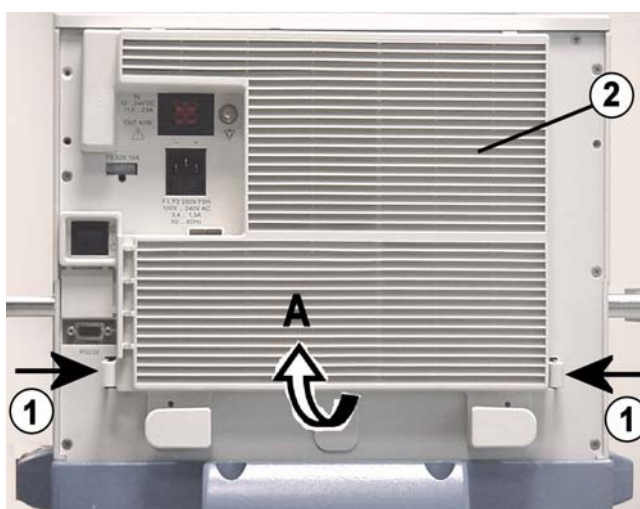

Fig. 29 View of unit rear; filter cover
1. On both sides press down the catches (Fig. 29/1) against the filter cover (Fig. 29/2) lift the filter cover up towards **A** slightly and detach it.